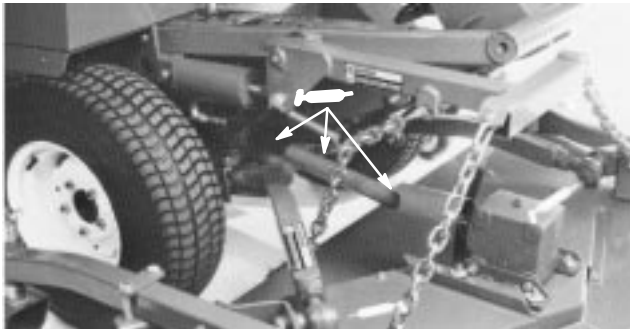
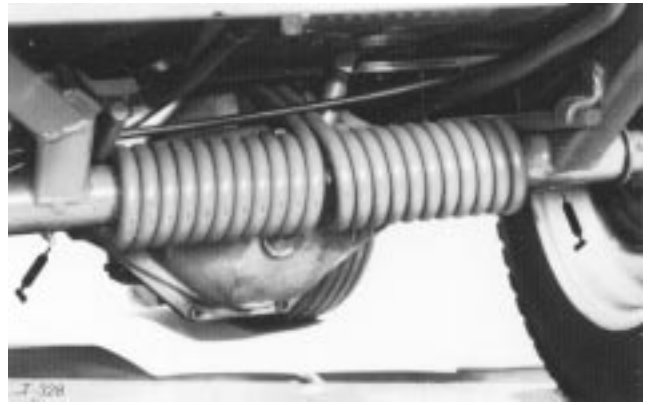
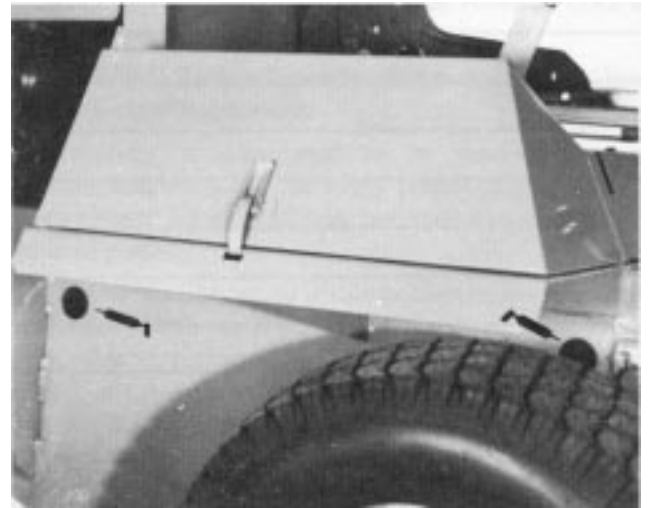

Figure 24
Figure 26
Figure 27
1. The traction unit bearings and bushings that must be lubricated are: PTO shaft and yokes (Fig. 24); lift arm pivots (Fig. 25); right and left push arm ball joints (Fig. 24); push arm pivot bushings (Fig. 26); PTO pivot housing blocks (Fig. 27); brake pivot bushings (Fig. 28); rear wheel spindle bushings, steering plate bushings, axle pin bushing, steering cylinder (2) (Fig. 29) and engine output shaft bearing (Fig. 30). Also apply grease to both brake cables at the drive wheel and brake pedal ends.